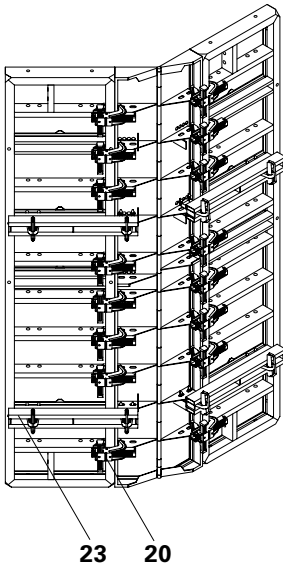

Fig. B1.04
Panel connection per side with 8 x Alignment Coupler BFD (20) and 2 x Compensation Waler TAR 85 (23). (Fig. B1.04)